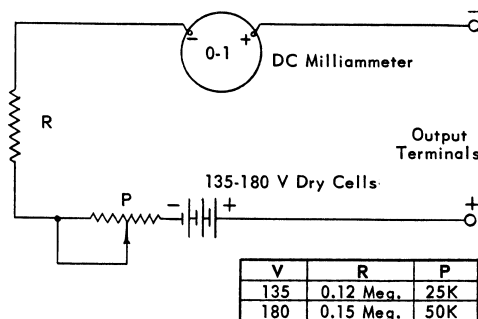

Figure 4
3. Continuity Meter, high voltage, for checking circuits where applied voltage must be similar to normal operating voltages. See Fig. 4 for suggested arrangement. This can be built by the service technician, parts are available through local Electronic Parts Distributors.